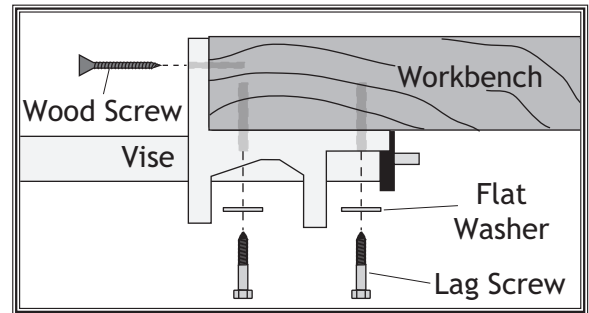

Figure 4. Attaching vise to workbench.
5. Attach the vise to the workbench with two #10 x 2" wood screws through the face of the vise jaw, as shown in **Figure 4**.
6. Secure the vise to the underside of the workbench with four $\frac{5}{16}$ " x $1\frac{3}{4}$ " lag screws and $\frac{5}{16}$ " flat washers as shown in **Figure 4**.